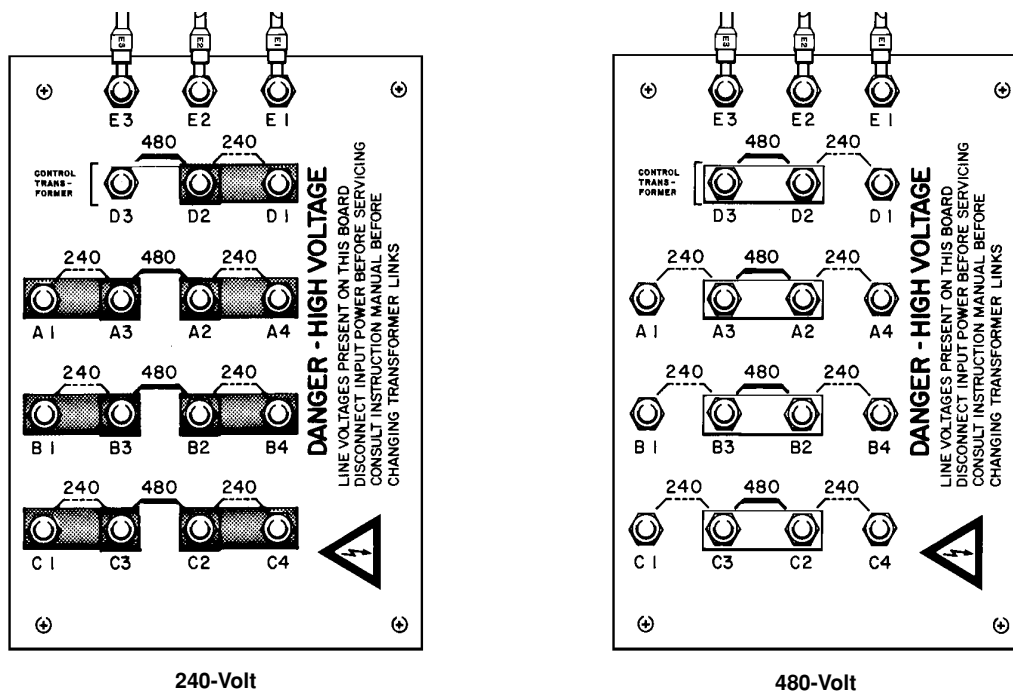

Figure 3-2 Dual Voltage 240/480-Volt Linkboard Configurations
- The 240/480-volt power supplies (078075) are shipped configured for 480-volt operation. The links must be moved for 240-volt operation (Figure 3-2).